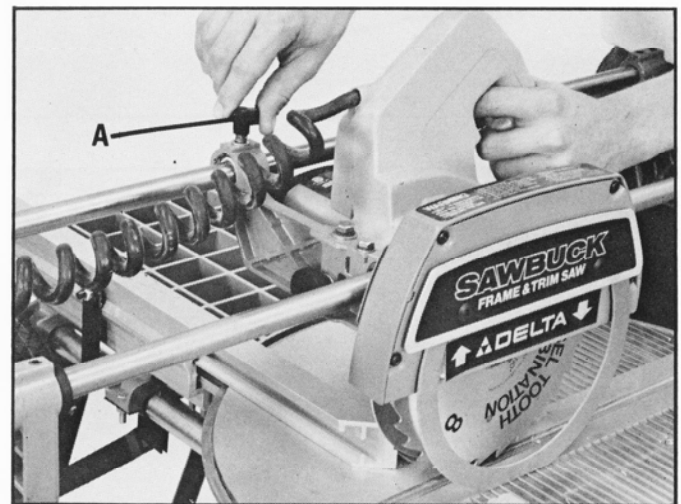

Fig. 25
A cuttinghead lock knob (A) Fig. 25, is provided to lock the cuttinghead to the rails when the saw is not in use or when the saw is being transported. When operating the saw, the cuttinghead lock knob (A) should be loosened about 1/4 turn to permit the cuttinghead to slide freely on the rails. NOTE: Excessive loosening of the cuttinghead lock knob may affect cutting accuracy.